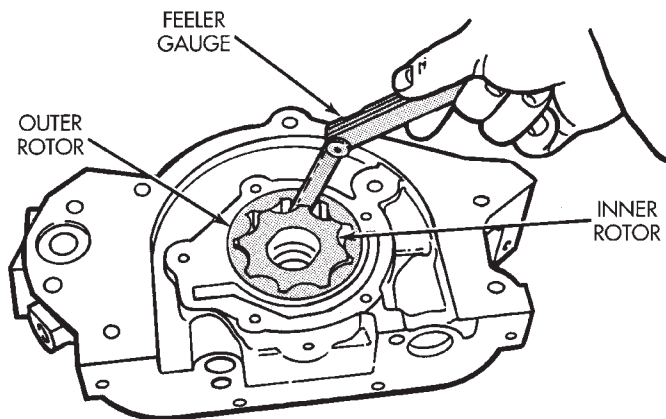

Fig. 112 Measuring Clearance Between Rotors
(6) Install inner rotor into body. If clearance between inner and outer rotors (Fig. 112) is 0.20 mm (0.008 inch.) or more, replace both rotors.